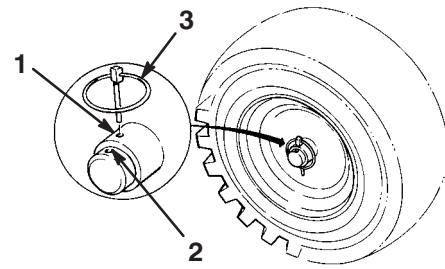

Figure 4
8. Slide the wheels inward and insert each axle pin through the hole in each wheel hub and through the inner hole of the axle (Fig. 4).